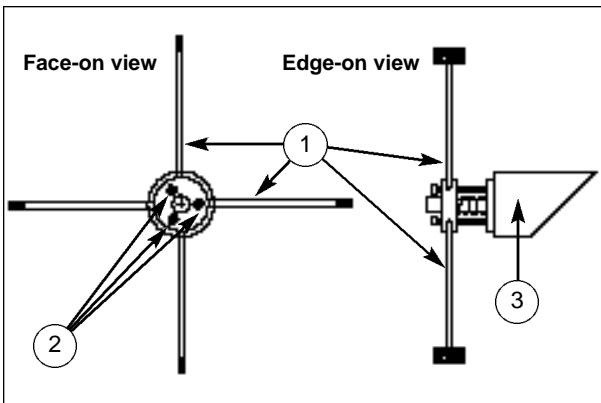
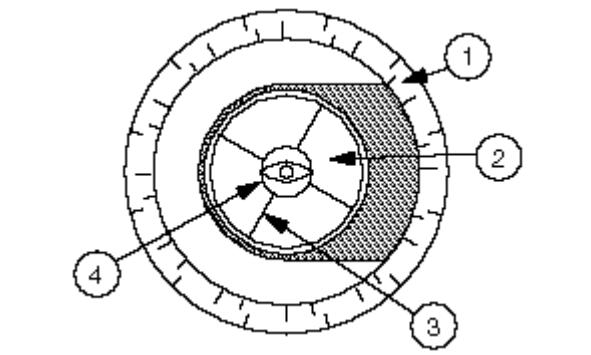
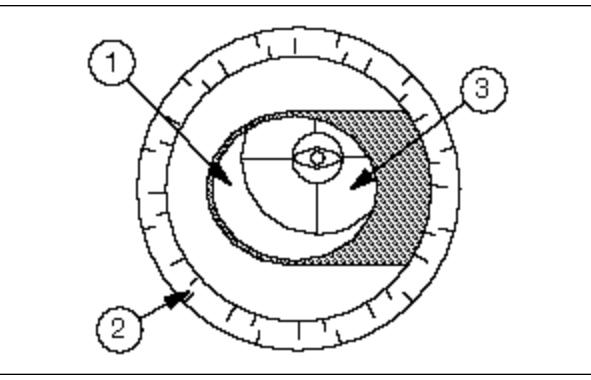
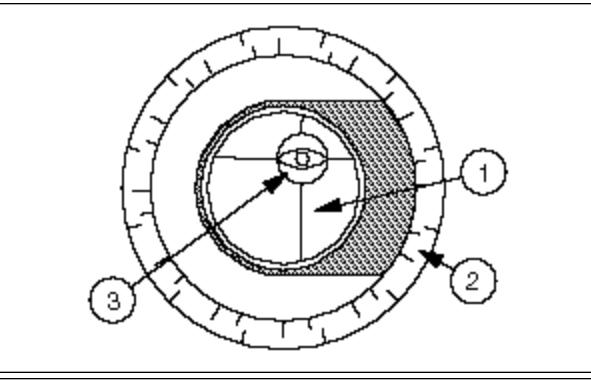

Fig. 4: Secondary Mirror Assembly. (1) Spider Vanes; (2) Tilt Screws; (3)Secondary Mirror Holder.
Fig. 5: Correct Collimation. (1) Round Edge of Focuser Drawtube; (2) Secondary Mirror; (3) Spider vanes; (4) Eye.
Fig. 7: Secondary Mirror Misalignment. (1) Secondary Mirror; (2) Round Edge of Focuser Drawtube; (3) Reflection of Primary Mirror.
Fig. 8: Primary Mirror Misalignment. (1) Secondary Mirror; (2) Round Edge of Focuser Drawtube; (3) Eye.
To inspect the view of the mirror collimation, remove the eyepiece and look down the focuser drawtube. The round edge of the focuser drawtube (1), Fig. 5, will frame the reflections of the primary mirror with the secondary mirror (2), Fig. 5, the spider vanes (3), Fig. 5, and your eye (4), Fig. 5. Properly aligned, all of these reflections will appear concentric (i.e. centered) as illustrated in Fig. 5. Any deviation from the concentric reflections will require adjustments to the secondary mirror assembly (Fig. 4), and/or the primary mirror cell.
Looking down the open end of the telescope tube, check to see if the secondary mirror system is centered in the optical tube. If the assembly is off-center, loosen one of the spider vane adjustment/lock knobs while unscrewing the opposite knob. Only make adjustments to 2 knobs at a time until the secondary mirror is centered in the drawtube. When the spider vane is correctly positioned, the view through the drawtube will look like Fig. 7. (Note that the secondary mirror is misaligned.)
If the secondary mirror (1), Fig. 7, is centered in the drawtube (2), Fig. 7, but the primary mirror is only partially visible in the reflection (3), Fig. 7, the 3 hex screws located on the secondary mirror assembly (2), Fig. 4, must be unthreaded slightly to refine the tilt-angle of the secondary mirror until the entire primary mirror can be seen centered within the secondary mirror reflection. When the secondary mirror is correctly aligned, it will look like Fig. 8. (Note that the primary mirror is misaligned.)
If the secondary mirror and the reflection of the primary mirror (1), Fig. 8, appear centered within the drawtube (2), Fig. 8, but the reflection of your eye (3), Fig. 8, appears off-center, one or more of the three primary mirror hex screws of the primary mirror cell will need to be adjusted. These primary hex screws are located behind the primary mirror, at the lower end of the main tube. Adjust the primary mirror alignment by slightly turning one hex screw at a time, looking through the focuser after each adjustment to determine if the mirror is moving in the correct direction.